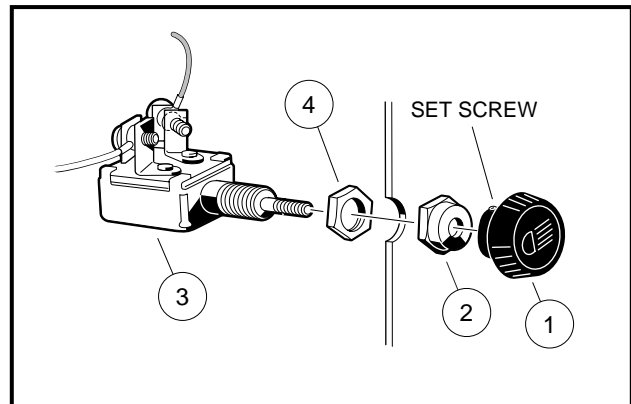

Figure 12-32 Light Switch
2. Loosen the set screw locking the light switch knob (1) to the shaft (**Figure 12-32, Page 12-29**).
5. Remove the outer nut (2) from the light switch (**Figure 12-32, Page 12-29**).
6. Remove the light switch (3) from the center dash panel.
2. Thread the check nut (4) onto the switch until an equal number of threads show on both sides. Insert the switch through the center dash panel and install the nut (2) on the outside of the dash. Tighten the nut to 14 in-lb (1.6 N·m) (**Figure 12-32, Page 12-29**).